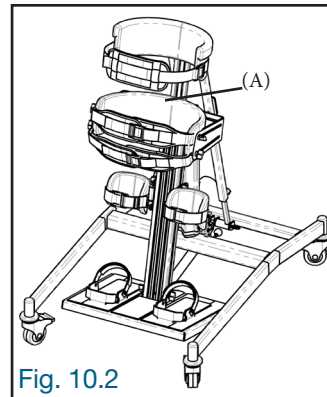

Fig. 10.2
10.2 Once all the restraints (thoracic, hip, knee) have been cleared, gently transfer the user into the product. To facilitate the transfer, the user can hold onto the back of the hip restraint (A) (Fig. 10.2).